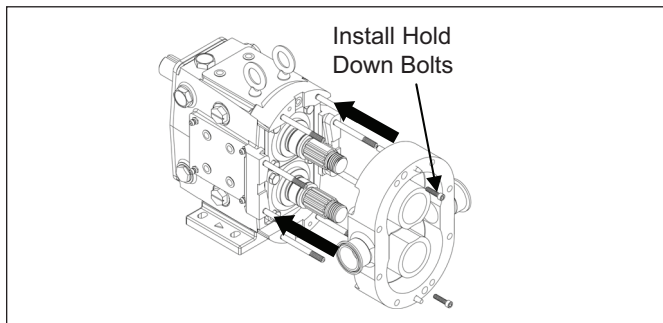

Figure 61. Installing Pump Body
1. Make sure all seal components are installed by following “Seal Maintenance” instructions provided on page 23. Ensure all dowels are in place and that all parts including body, rotors, and jam nuts are clean and free of foreign matter. Slowly slide the body over the gear case studs and shafts, ensuring the seals are kept in place and not damaged (Figure 61). Install the two hold-down bolts and tighten the body against the gear case to ensure the dowels are engaged. Rotate the shafts to make sure there is no interference with the seals.